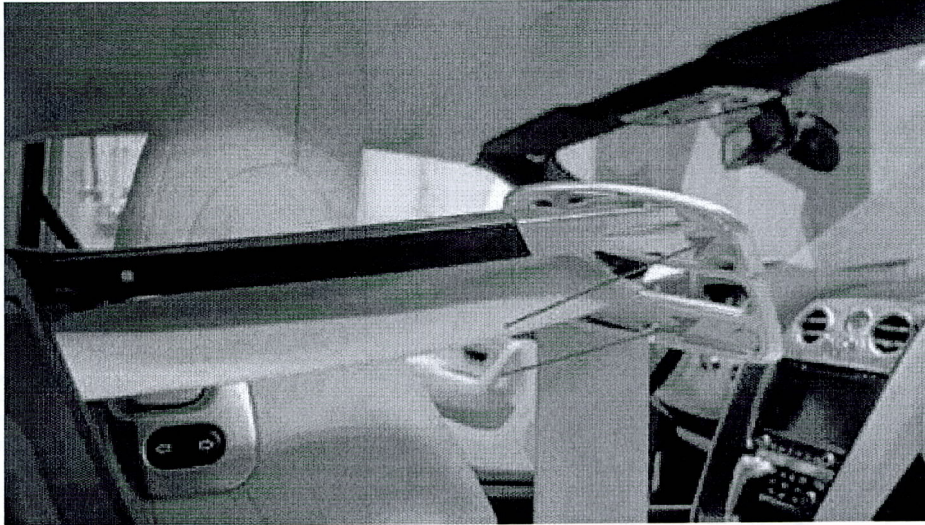

Figure 4
5. Carry out the same operation for the right hand seat belt presenter (see Figure 4)